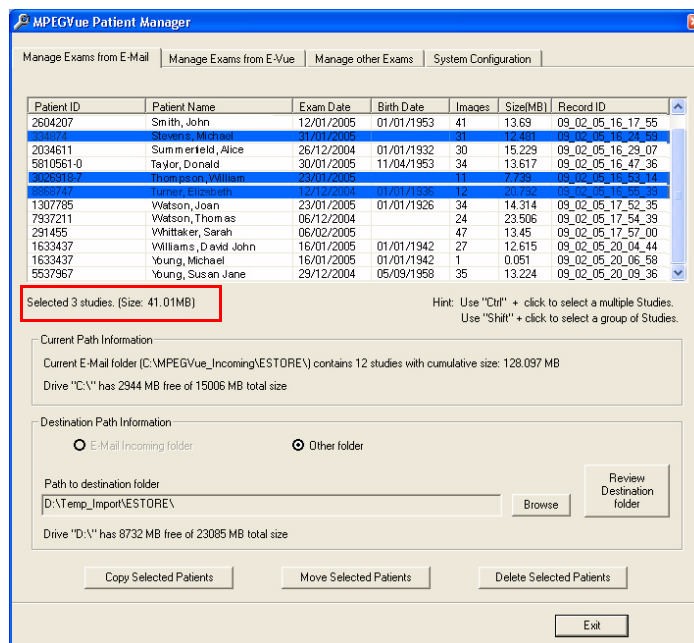

Figure 3-189 Exams Selected
- b.) Select the required exam or exams, as shown in Figure 3-189.
The currently-selected exams are now highlighted in the list and, as shown in Figure 3-189, the cumulative size of the 3 studies is displayed below.